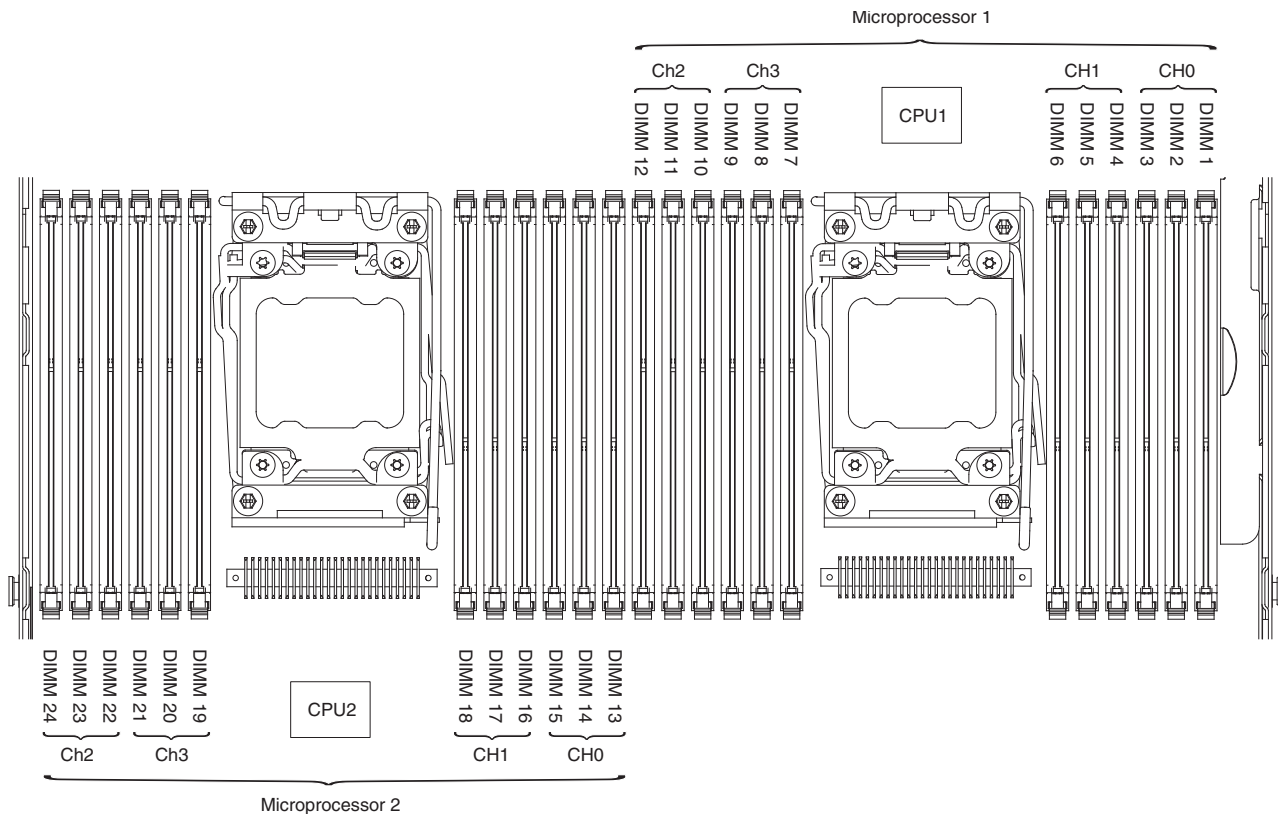

Figure 109. Locations of the DIMM connectors on the system board
- The SAN Volume Controller 2145-DH8 node uses four modules in DIMM slots 1, 4, 9, and 12 (and four modules in slots 13, 16, 21, and 24 if the second processor is fitted), as shown in Figure 109.